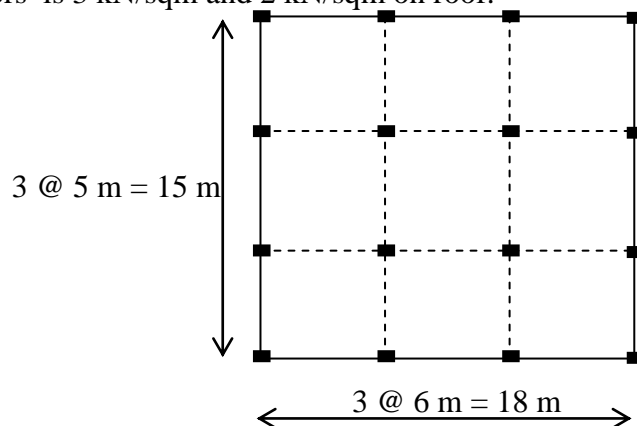

Figure 5 (b)
- b) Determine the design seismic load on each frame of a five-storeyed reinforced concrete telephone exchange building located in Vijayawadal, the plan is as shown in Figure 5 (b). The soil condition is medium soil. The reinforced concrete frames are filled with brick masonry and the height of each storey is 3.6 m . The lumped weight due to dead load is 1 kN/sqm on floors and 2 kN/sqm on roof. The live load on the floors is 3 kN/sqm and 2 kN/sqm on roof.